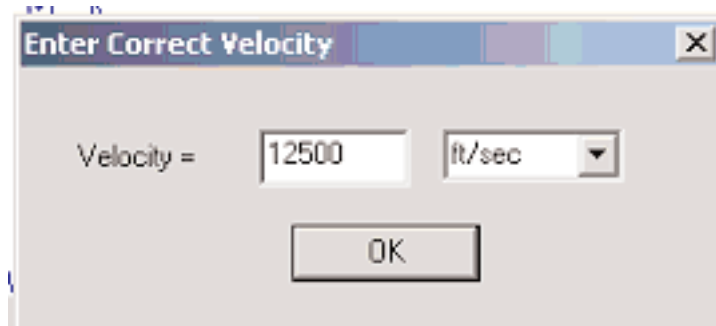

Figure 4: Velocity Input
- Once "Change Velocity" has been selected, an input screen should appear prompting the user for the velocity and the units, see Figure 4. If a direct velocity measurement was taken using a hydrophone, then that number should be used. If a direct velocity measurement was not taken, then 12,500 ft/sec or 3,750 m/s should be used.